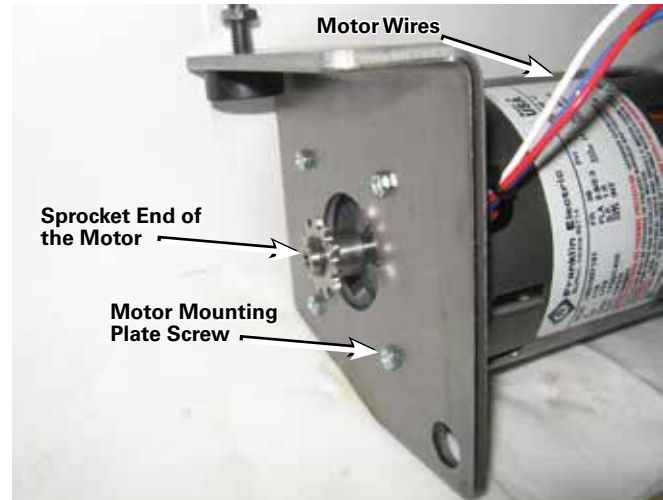

Figure 13. Motor mounting plate.
- Use a 1/4" socket on a ratchet to attach the motor mounting plate to the new motor using the new motor mounting plate screws provided in the motor replacement kit. Do not fully tighten. Make sure the motor wires are extending out of the top right of the motor when looking at the motor from the sprocket end. Refer to Figure 13. Using a torque wrench, now tighten the motor plate mounting screws to 18–20 lb-ins (2.0–2.2 Nm).